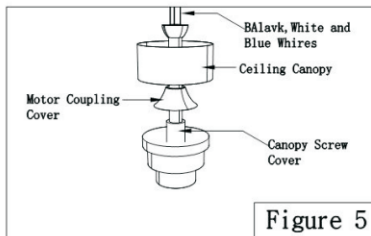

Figure 5
- Route wires through motor coupling cover, canopy screw cover and ceiling canopy. (Figure 5)